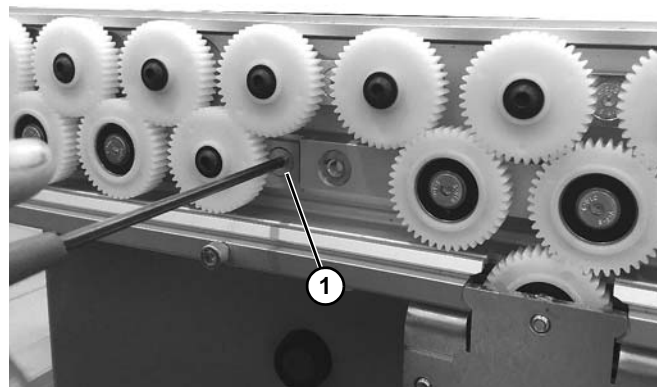

Figure 51
3. Remove screw (Figure 51, item 1) from bearing assembly.